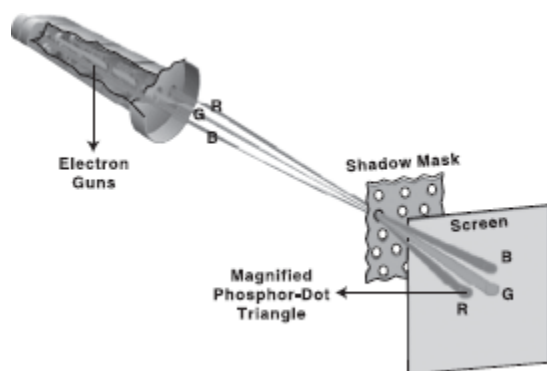
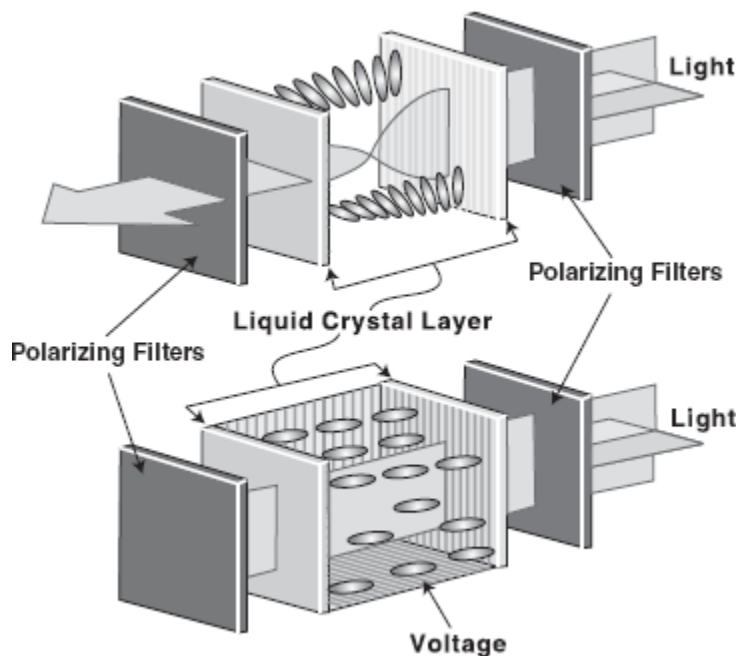

Figure 4.47 Shadow Masking
Figure 4.49 Active Matrix LCD
- **Shadow Masking:** Shadow-mask method is commonly used in raster scan systems because it produces a much wider range of colours than the beam-penetration method. A shadow-mask CRT has three phosphor colour dots at each pixel position. One phosphor dot emits a red light, another emits a green light and the third emits a blue light. This type of CRT has three electron guns, one for each colour dot, and a shadow-mask grid just behind the phosphor-coated screen. Three electron beams are deflected and focused as a group onto the shadow mask, which contains a series of holes aligned with the phosphor-dot patterns. When the three beams pass through a hole in the shadow mask, they activate a dot triangle, which appears as a small colour spot on the screen. The phosphor dots in the triangles are arranged so that each electron beam can activate only its corresponding colour dot when it passes through the shadow mask (see Figure 4.47).
The process illustrated in Figure 4.47 is followed for a simple monochrome LCD. However, colour LCD is more complex. In a coloured LCD panel, each pixel is made up of three liquid crystal cells. In front of each of these cells, there is a red, green or blue filter. Light passing through the filtered cells creates the colours on the LCD. Nowadays, nearly every colour LCD uses a thin-film transistor (TFT), also known as an active matrix, to activate each cell (see Figure 4.49). TFT-based LCD creates sharp, bright images as compared to previous LCD technologies. The oldest of the matrix technologies, passive-matrix, offers sharp text but leaves “ghost images” on the screen when the display changes rapidly, making it less than optimal for moving video.